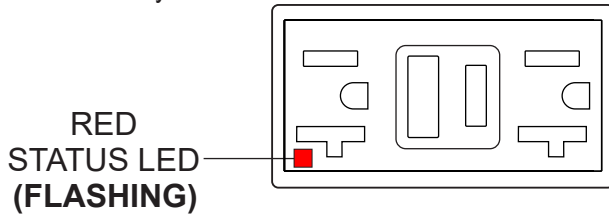

Figure 52. GFCI Receptacle (Red Flashing LED)
6. If the status LED (Figure 52) is **flashing (RED)**, **DO NOT** use the GFCI receptacle and replace it immediately.